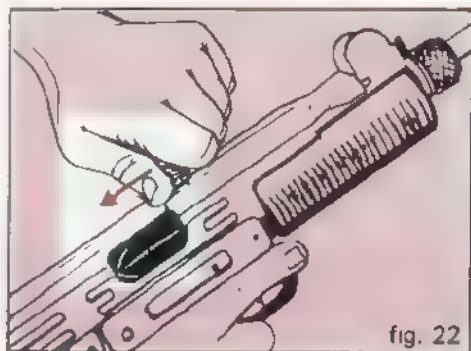

fig. 22
4. While fully depressing the safety grip, pull cocking knob all the way back and release knob instantly to allow bolt to snap forward (fig 22).